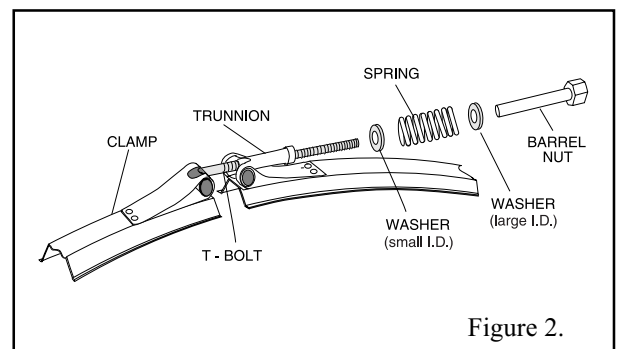

Figure 2.
3. Holding the ends of the filter clamp apart, position the center segment of the filter clamp over both upper and lower tank flanges. Bring the ends of the filter clamp together, while inserting the T-Bolt into the trunnion; see Figure 2.
4. Using Figure 2 as a guide - place washer (large I.D.) and the tension-indicating spring on the barrel nut. Place the second washer (small I.D.) on the T-Bolt. Hand-tighten nut. Recheck filter clamp for proper seating on tank flanges.